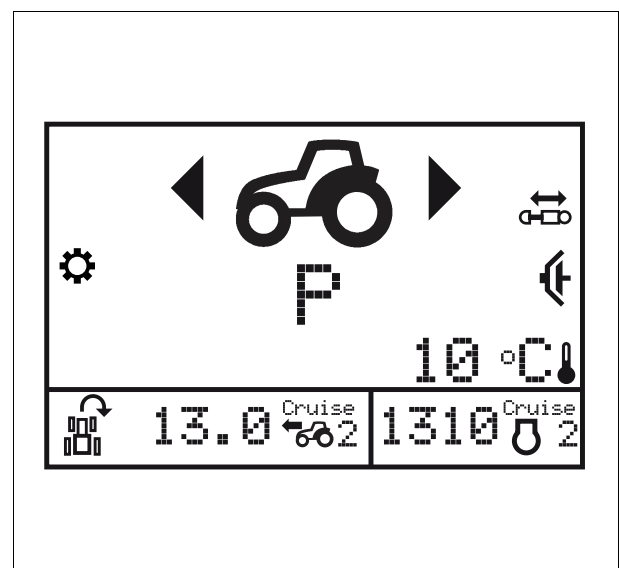

Fig. 13.
When automatic mode is engaged, display (1) disappears from the armrest screen and nothing is displayed fig. 13.